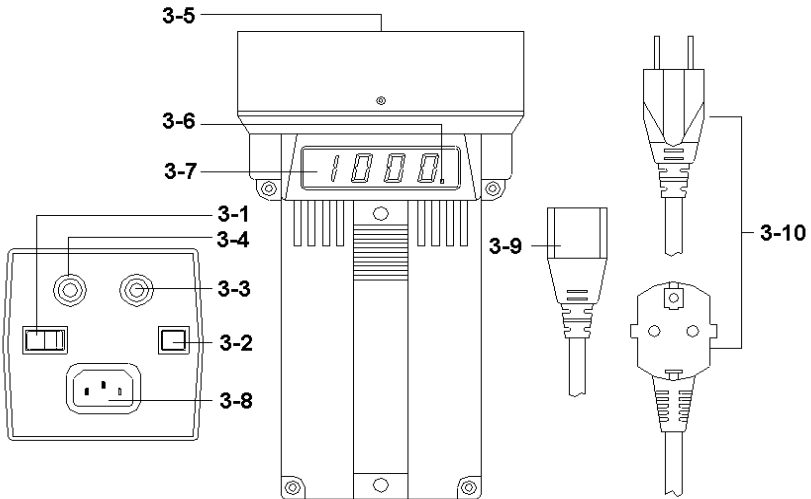

Fig. 1
- a. Connect the " Power Cord Connector " (3-9, Fig. 1) to the " Power Cord Input Socket " (3-8). Plug the " Power Cord Plug " (Fig. 1, 3-10) into a properly grounded 110V AC, 220V AC or 240V AC outlet.
- b. When checking the speed, care must be taken to ensure that the strobe is flashing in unison (one to one) with the object being monitored. Turn the " Fine Adjust Knob " (3-3, Fig. 1) or " Coarse Adjust Knob " (3-4, Fig. 1) until the mark look like " Stop " (synchronize).